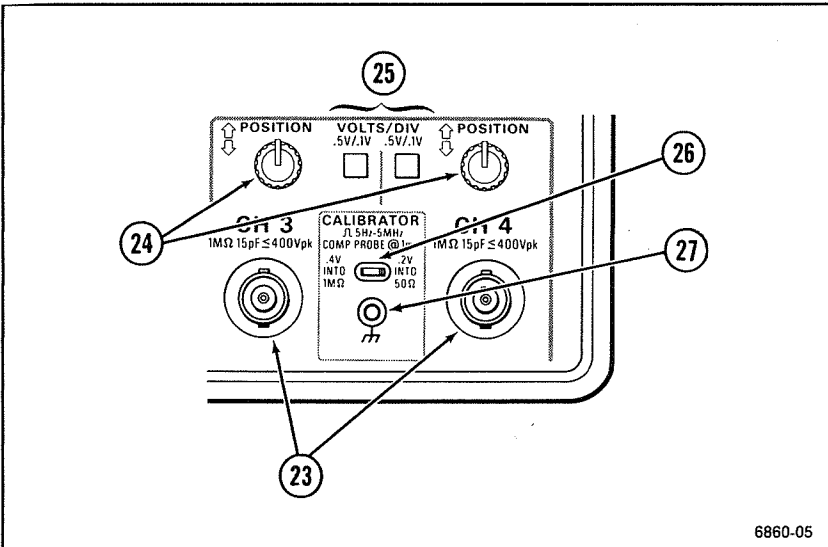

Figure 5-4. CH 3 and CH 4 controls, connectors and CALIBRATOR output.
Refer to Figure 5-4 for the location of items 23 through 27.